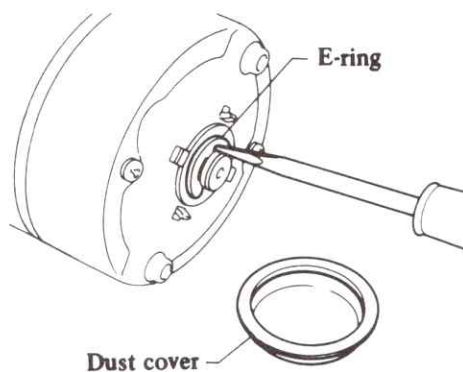

Fig. 12.7 Starter motor dust cap and E-ring (Sec 10)
- 5 Prise off the E-ring (Fig. 12.7) and remove the thrust washers.